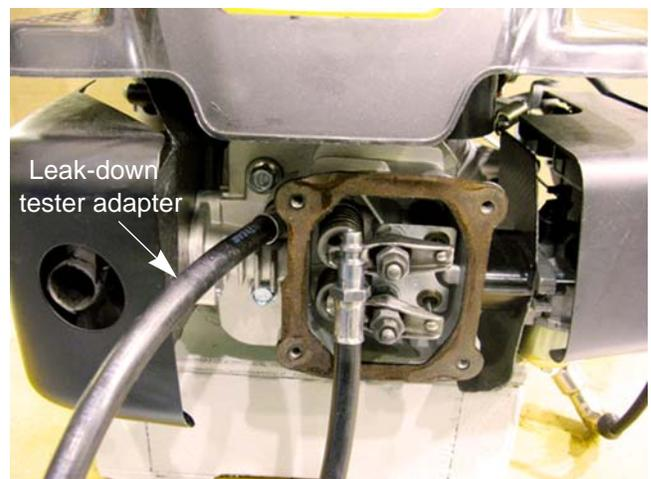

Figure 2.1
2. Thread the leak down tester adapter into the spark plug hole. See Figure 2.1.